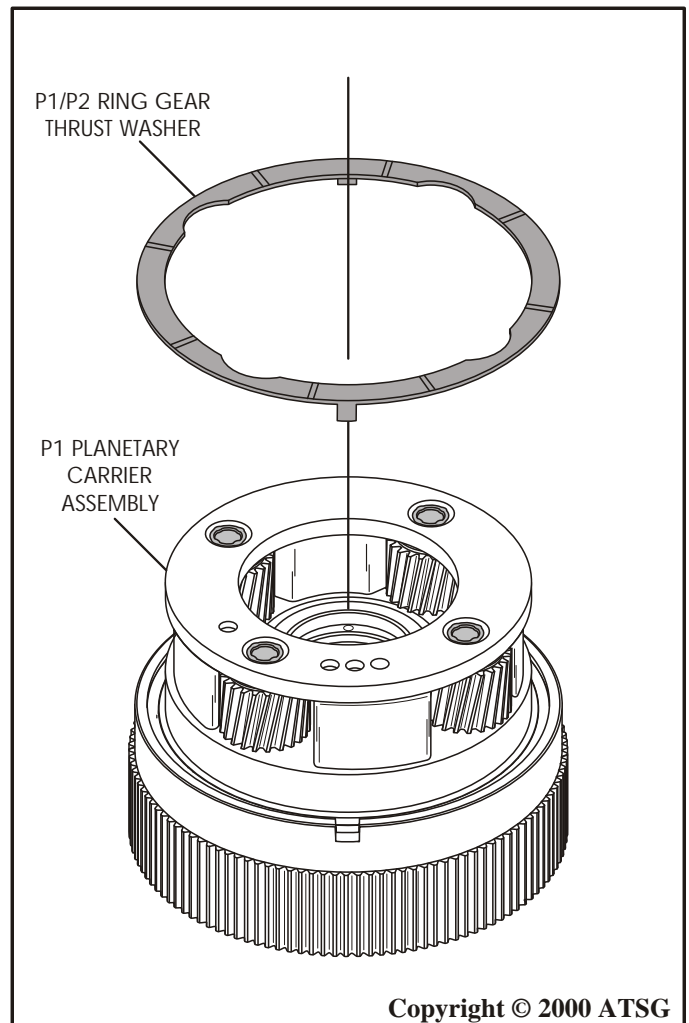

Figure 142
5. Install the P1/P2 ring gear thrust washer onto the assembly as shown in Figure 142.